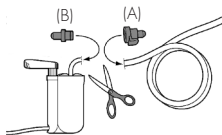

Figure 3-1
2. Attach white quick connect insert (B) to the "short" section of hose. Attach white quick connect body (A) to the "long" section of the cut hose. Connect them together. (Figure 3-1)